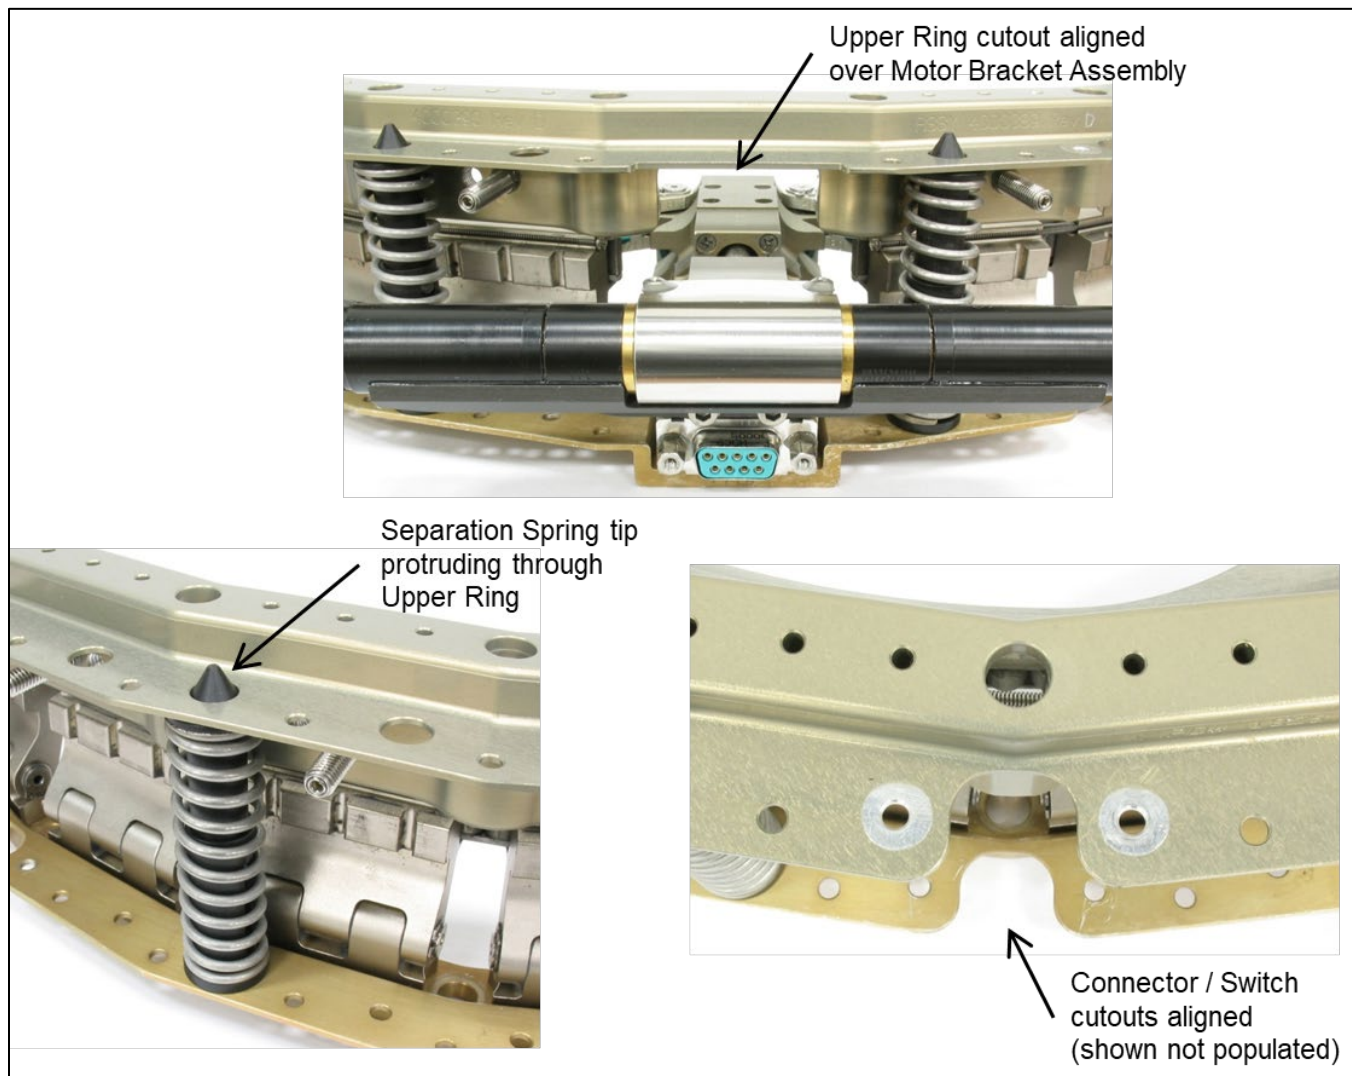

Figure 8-6: Aligning the Lower and Upper Rings.
8.1.11	<p>Move the Upper Ring close to the Lower Ring for alignment checks. Verify alignment before any force is applied to compress the Lightband.</p> <p>Per Figure 8-6 ensure:</p> <ol style="list-style-type: none"> 1. Cutout in Upper Ring aligns over Motor Bracket Assembly on Lower Ring. 2. All Separation Connector/Switch cutouts align. 3. All Separation Spring tips protrude through appropriate holes in the Upper Ring. <p>Note if using a crane to lower a payload, perform all crane adjustments with the Upper Ring entirely above the Separation Spring tips to prevent damage due to excess crane movement.</p>